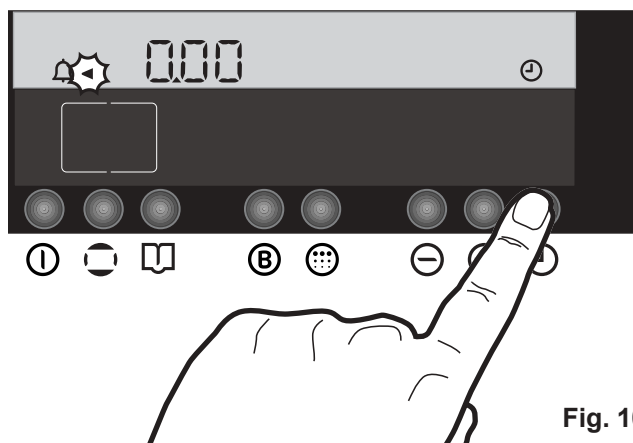

Fig. 10
1. Press the "Time Function" button . The symbol  flashes near the "Minute Minder" symbol  and the time display shows "0.00" (Fig. 10).